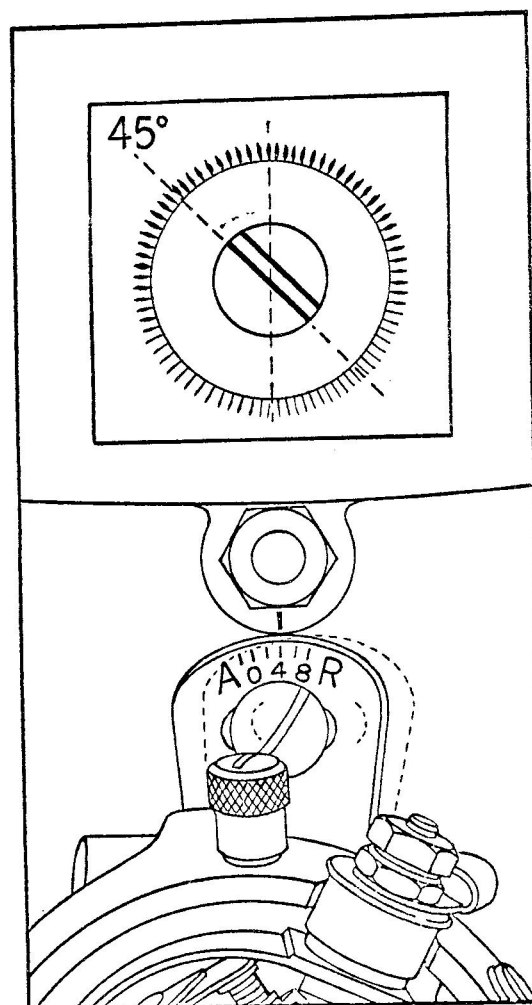

Fig. 6
Where the current type distributor has been fitted to cars leaving the factory, the oil pump drive gear has been set so that when the timing pin is located in the indentation of the camshaft gear, the slot in the oil pump drive gear, as viewed from above with the distributor removed, will lie at an angle of approximately 45 degrees to the cylinder front cover, with the narrower shoulder directed towards the rear of the engine, as illustrated in Fig. 6. This is essential, as it is not practicable to move the cam relative to the distributor shaft as formerly, and unless the shaft is in the position shown, the rotor contact arm will be incorrectly placed for timing.
4. Take off the distributor cap and make sure that the rotor contact is facing No. 1 cylinder contact point position. Place the distributor in the engine and secure the body clamp plate to the cylinder head by means of the screw 26475-S, with the zero reading of the scale set against the index mark, as shown by the dotted outline in Fig. 6. (The index mark was originally made with a centre punch; in this case set the scale reading against the centre of the punch mark.) It is most important that a $\frac{1}{16}$ inch thick washer, part number Y-110819, be placed between the distributor plate and the cylinder head to prevent the distributor shaft being drawn out of line when the screw is tightened down. Another washer, part number 34805-S and a lock-washer, part number 34805-S should also be used between the screw head and the plate.
6. Loosen the screw that fixes the body clamp plate to the cylinder head, set the "4" graduation mark of the scale against the index mark as shown by the full outline in Fig. 6, and secure firmly in this position. The ignition should now be correctly timed and all adjustments made should be checked.